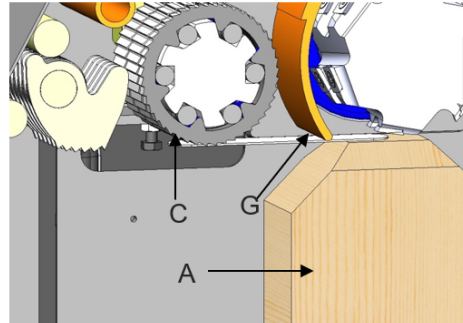
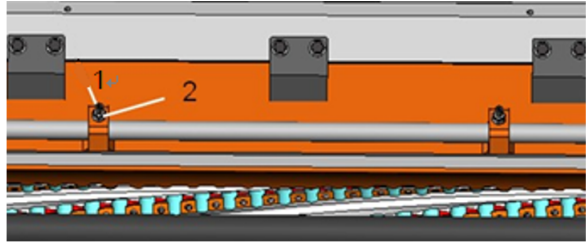

FIG. 17: FINGER ADJUSTMENT
FIG. 19: PRESSURE BAR ADJUSTMENT
1. Place a hard wood gauge (Fig.17, A) under a knife in cutterhead (Fig.17, B). Place a 0.02" feeler gauge (Fig.17, C) on top of wood block and raise table until feeler gauge contacts the knife in its lowest position.
2. Loosen screw (Fig. 19, 1) and nut (Fig.19, 2) turn the screw to the right so that the pressure bar moves upward. Place gauge block and 0.2m thickness gauge (Fig.17, A) under the cutterhead.
2. Place a hard wood gauge (Fig.17, A) under a knife in the cutterhead. Place a 0.02" feeler gauge (Fig. 17, B) on top of wood block and raise table until the gauge contacts the knife in its lowest position.